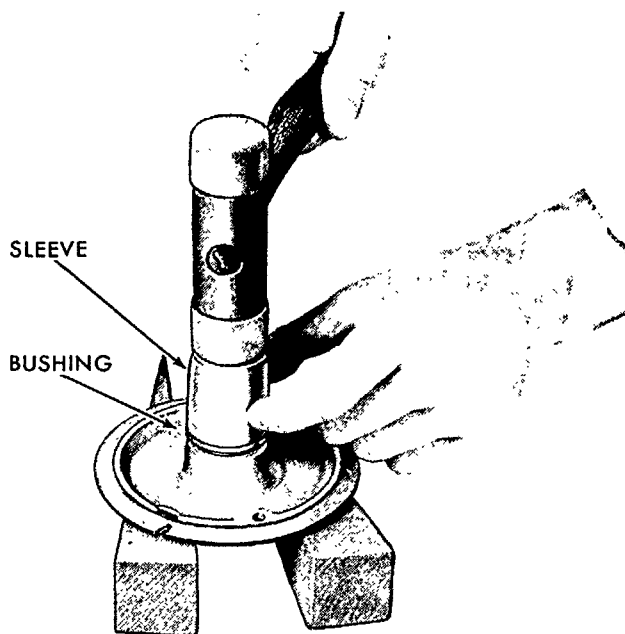

Figure 45
6. **5-Inch Starting Motor:** Install the intermediate plate bushing with a 1-1/16-inch (26.99 mm) O. D. sleeve, Figure 45.